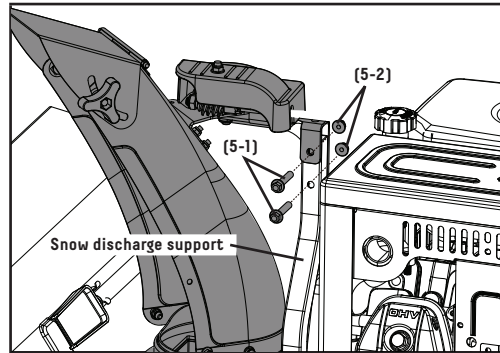

Figure 7
1. Remove the bolts (5-1) and nuts (5-2) on the snow discharge support. Hold bolts and nuts for next step. (Fig. 7)
2. Put the snow discharge chute on the base of unit's body. Tighten the component on the snow discharge support using bolts (5-1) (Fig. 7) and nuts (5-2) (Fig. 7). Be careful not to deform the plastic.